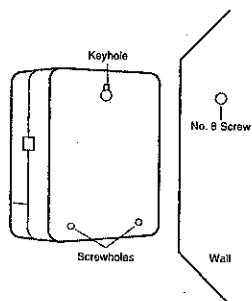

Figure 18: Mounting the Timer
- ◆ Screw a No. 8 screw through each of the two holes at the bottom of the timer box into the wall [See Figure 18].